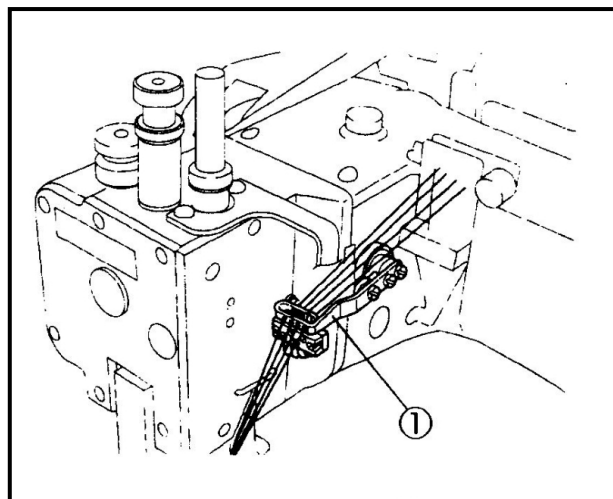

Fig.36
- (1) 抬線架①轉到最低位置。(Fig.36)
- (1) Position the needle thread take-up① at the lowest point. (Fig.36)